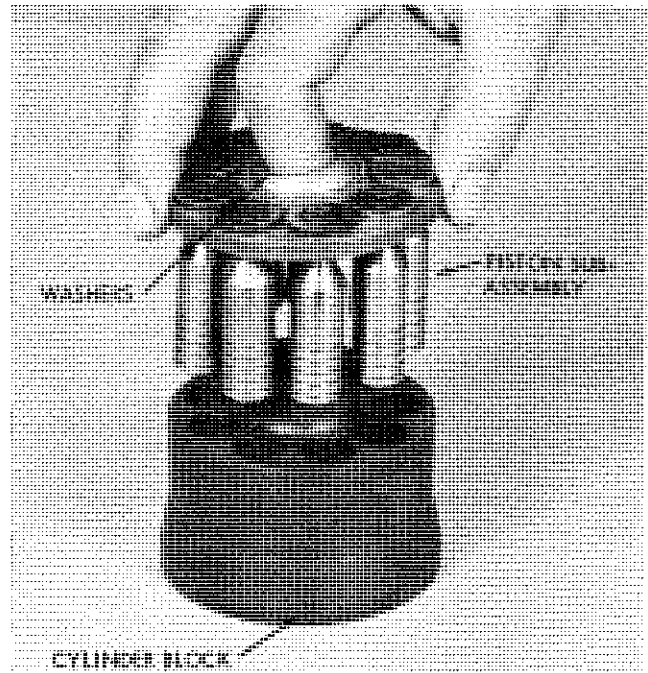

Figure VI-18. Disassembly of Rotating Group Assembly
- b. Remove piston sub-assembly from cylinder block by lifting straight up, still holding washers in place with index finger (Figure VI-18).